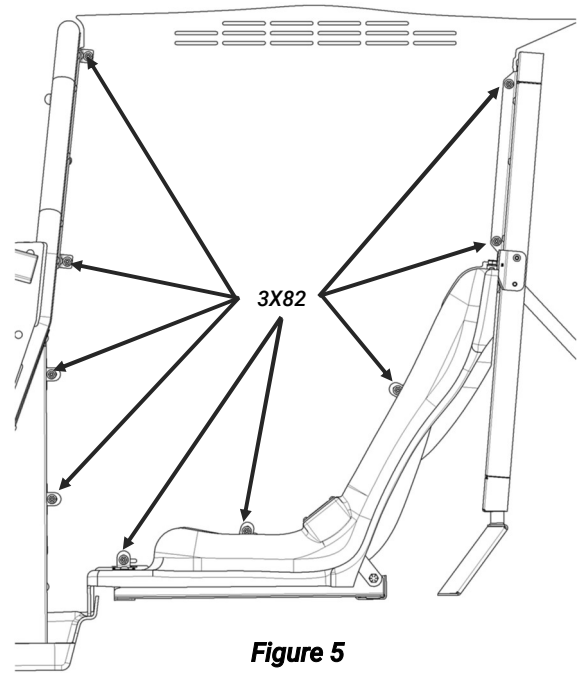

Figure 5
- E. From the passenger side insert a carriage bolt [3X82] through the divider and divider brackets in each of the (9) locations shown in Figure 5.